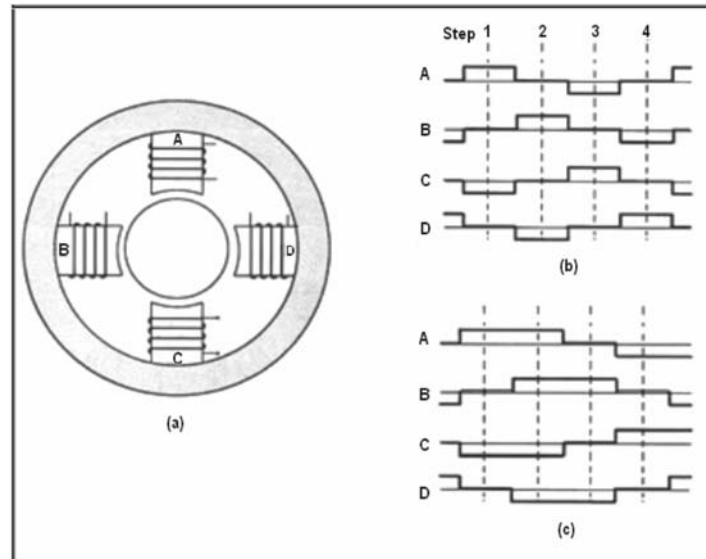

**Figure 13.24** Components of a PM stepper motor: (a) Rotor and (b) Stator.
The most popular types of stepper motors are permanent-magnet (PM) and variable reluctance (VR) and Hybrid Stepper Motors. The *permanent-magnet stepper motor* operates on the reaction between a permanent-magnet rotor and an electromagnetic field. Figure 13.24 shows a basic two-pole PM stepper motor. The rotor shown in Figure 13.24(a) has a permanent magnet mounted at each end. The stator is illustrated in Figure 13.24(b). Both the stator and rotor are shown as having teeth. The teeth on the rotor surface and the stator pole faces are offset so that there will be only a limited number of rotor teeth aligning themselves with an energized stator pole. The number of teeth on the rotor and stator determine the step angle that will occur each time the polarity of the winding is reversed. The greater the number of teeth, the smaller the step angle.